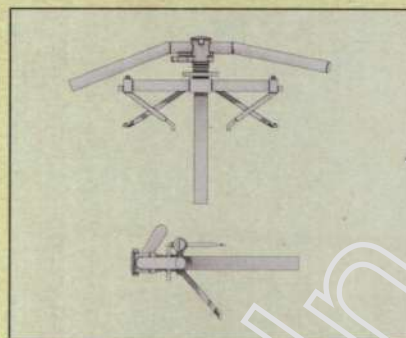

Fig. 4. Check the alignment of parts A.11 and A.12 during assembly
Step 5. Assembling the crankshaft with the engine mount brace and carburettor air induction tubes. Please check the part alignment (Fig. 4) when completing this stage. Before adding the air induction tubes, please check step 6